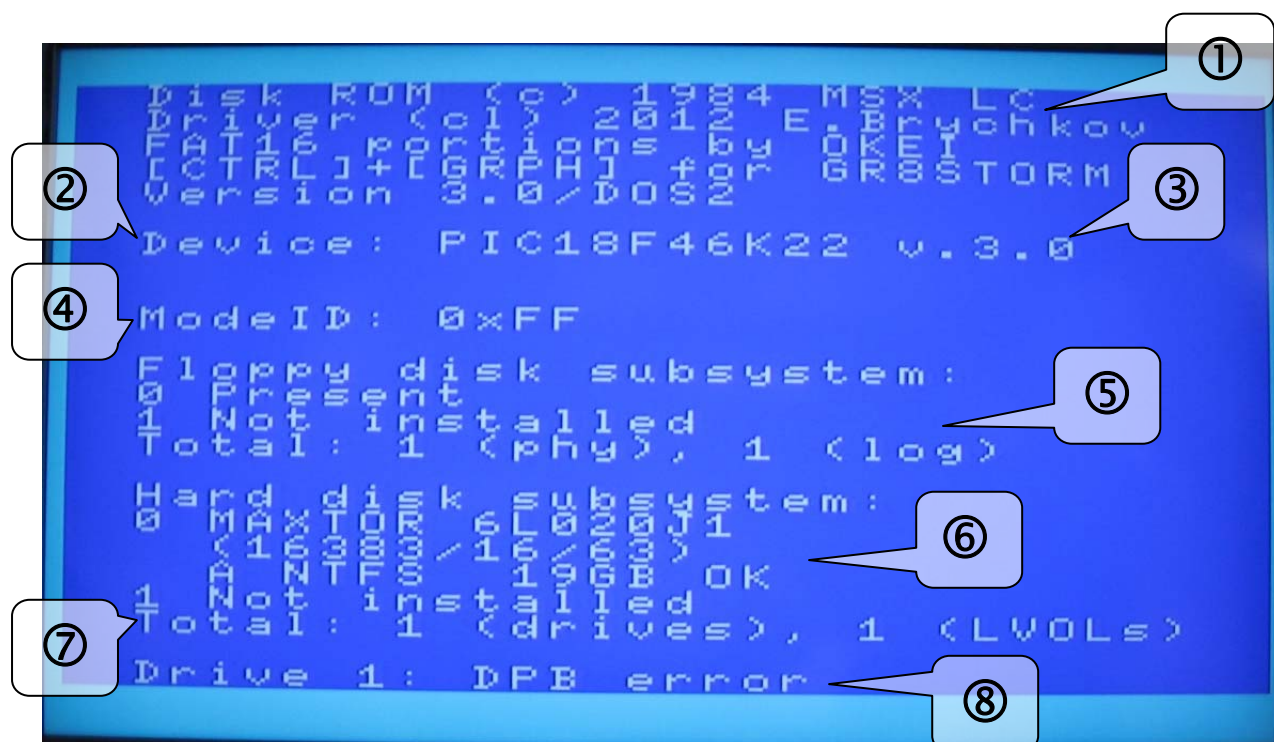

Figure 5.2. Storage subsystem initialization screen
Figure 5.2 shows messages of the GR8BIT storage subsystem initialization screen. Let's consider every part, as each provides you with important information:
6. List of hard drives detected and partition entries found on them. Letter "A" at the beginning of partition line designates if the partition is market for configuration. If trailing message is not "OK", LVOL will not be configured. If subsystem senses that there's a hard disk, but cannot get its identification information (e.g. disk is faulty, unsuccessfully completed master/slave diagnostics, or incorrect disk master/slave jumper configuration), ROM will count down 8 seconds before timing out on the hard disk device. Note that on the fig. 5.2 you see disk CHS configuration of 65535/16/63, which means CHS-addressable space of 8Gbytes only, but the NTFS logical volume is listed as 19Gbytes. This is the valid case because Windows OS host created partition not using and limiting itself by CHS addressing, but using LBA addressing. GR8BIT operates in CHS mode, thus has disk size limit of 8Gbytes (4 FAT16 partitions by 2Gbytes each);